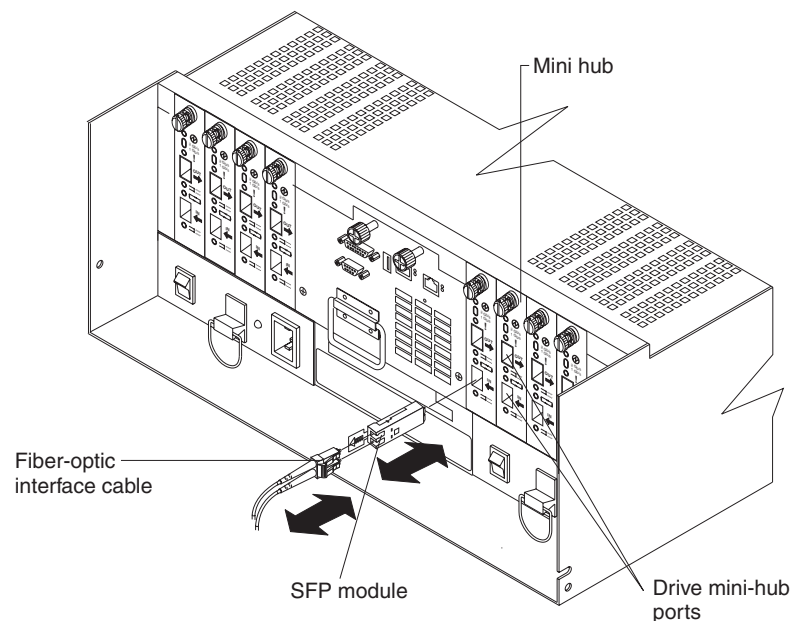

Figure 34. Installing an SFP module and LC-LC cable in a FASTt700
2. Connect an LC-LC fiber-optic cable into the SFP module, as shown in Figure 34.